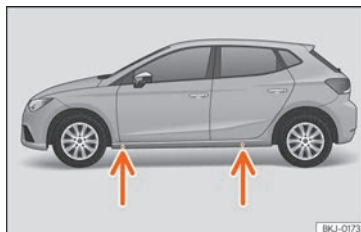

Fig. 76 Jack position points.
- Find the support point on the strut (sunken area) closest to the wheel to be changed » » Fig. 76.